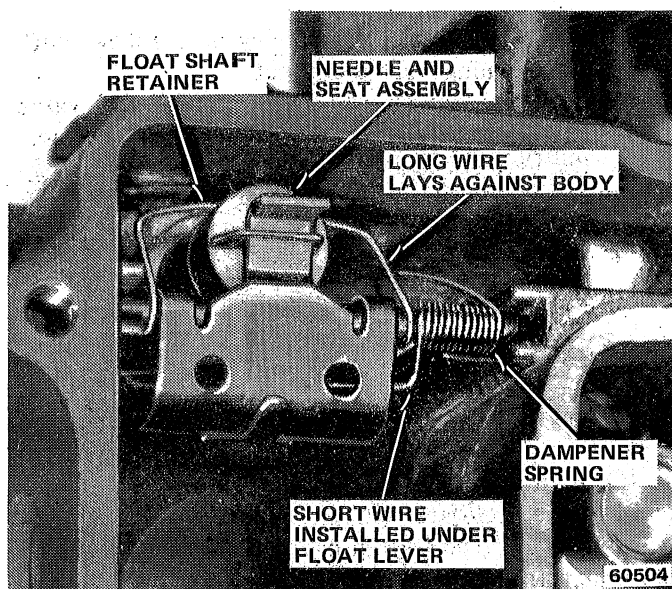

Fig. 1J-131 Damper Spring Installation
(12) Install main jets.
(13) Install fuel inlet seat and replacement gasket. Install fuel inlet needle assembly in fuel inlet seat. Fuel inlet needles and seats are matched assemblies. Ensure correct needle and seat are assembled together.
(14) Slide float shaft into float lever. Position float shaft retainer on float shaft.
(15) Install float damper spring with short wire under float lever (fig. 1J-131).
(16) Insert float assembly into fuel bowl and hook float lever tab under fuel inlet needle assembly. Insert float shaft into its guides at sides of fuel bowl.
(17) Press float shaft retainer into groove on fuel inlet needle seat and adjust float level. Refer to Service Adjustment Procedures.
(18) Drop accelerator pump discharge ball into passage in main body.
(19) Position replacement booster venturi gasket and booster venturi in main body.